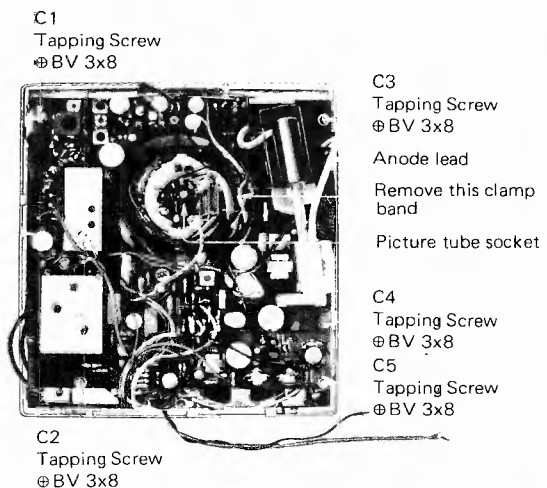

Fig. 9 Printed Circuit Board Removal
6. Remove the five screws labeled C1-5 in Fig. 9.